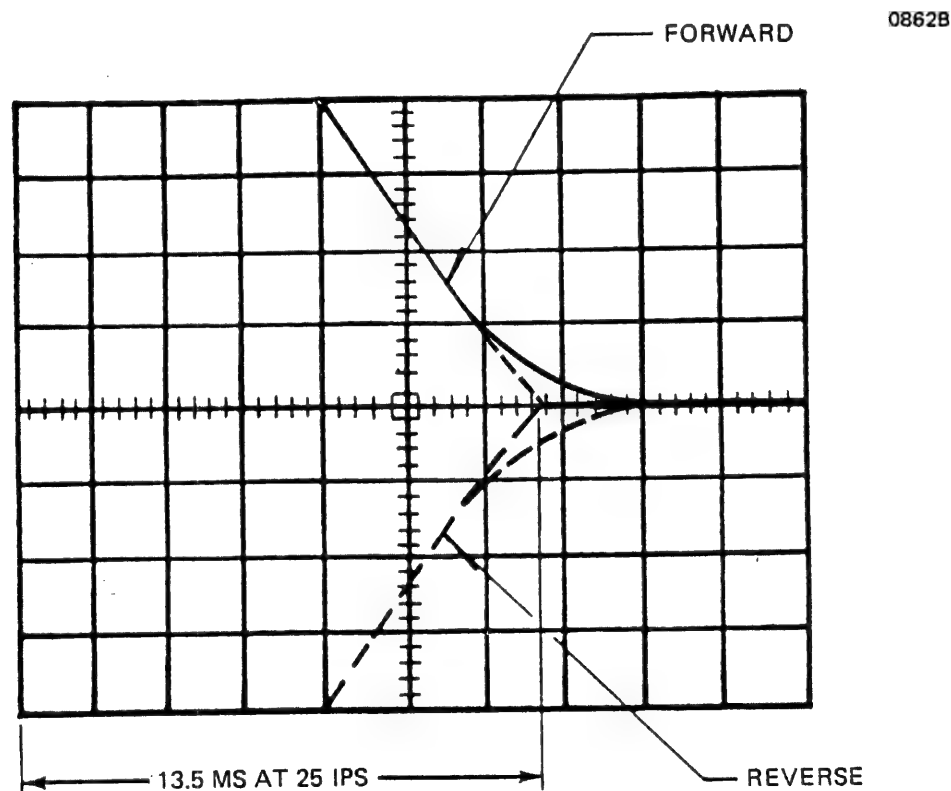

Figure 4-23. Stop Ramp Time
- a. To adjust forward stop ramp time, see dwg. 200632 in Engineering Drawing Package, Sections 1 and 2, and Figure 4-23; and use the following procedure: